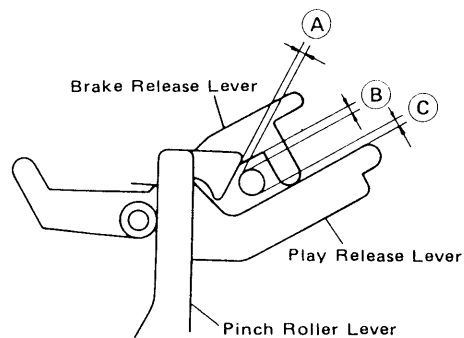

Figure 15-2
Place the set in play mode, and see that the pinch roller lever moves to create the gaps (A), (B) and (C) as shown in Fig. 15-2.